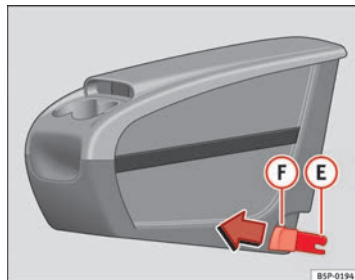
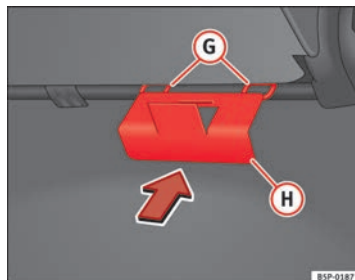

Fig. 112 Mobile storage compartment. Installation
Fig. 113 Mobile storage compartment mounting plate
- Fit the mobile storage compartment mounting plate (H) ⇒ Fig. 113 from the inside of the vehicle, through the rear part of the seat. It should be fitted between the backrest and the seat, in the central seat area.
- Set both mounting pieces together (E) ⇒ Fig. 112, with both mounting rings (G) ⇒ Fig. 113 and press hard until both the clips completely connect with the rings.
- Pull each of the buttons ⇒ Fig. 112 (F) on the clips (red buttons) forwards, until they snap out of place.